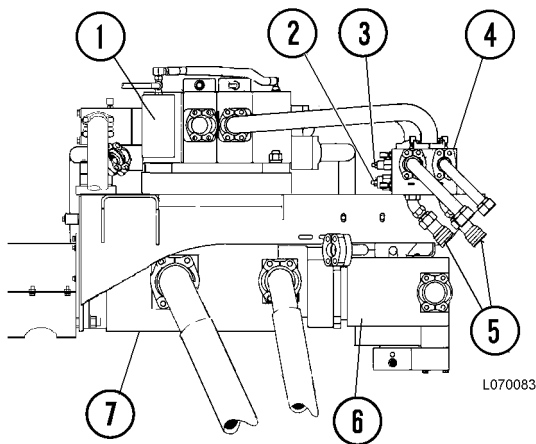

FIGURE 10-4. PUMP MODULE
Overcenter manifold (4, Figure 10-4) contains counterbalance valve (2), which controls the pressure of the cushion of oil in the annulus area of the hoist cylinder when the body approaches the maximum dump angle. The counterbalance valve limits the maximum pressure buildup by relieving pressure in excess of 20 400 kPa (3,000 psi), preventing possible seal damage.